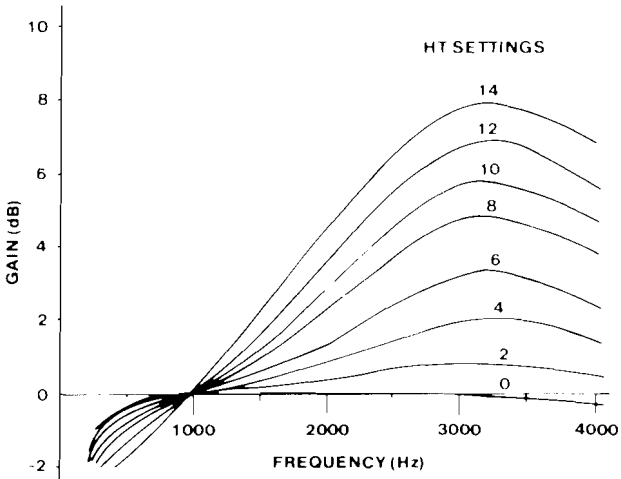
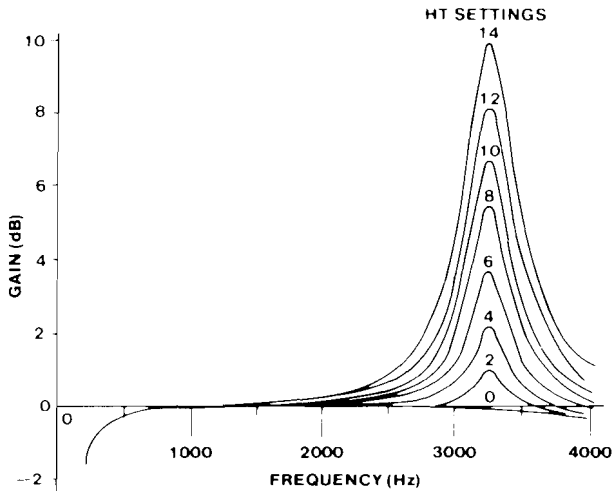

figure 6. Typical response curves for receive and transmit equalizers in bump mode, BW switch = 14
figure 7. Typical response curves for receive and transmit equalizers in bump mode, BW switch = 3
2.07 Figures 6 and 7 show typical response curves for the 309B-equivalent equalizer in the bump mode. Figure 6 shows the curves representing various height settings versus a wide bandwidth setting, while figure 7 shows the curves representing various height settings versus a narrow bandwidth setting. For comparison purposes, all frequency-response curves in both figures are drawn with the same 0dB-gain reference point (1004Hz). Actually, all of these curves except those